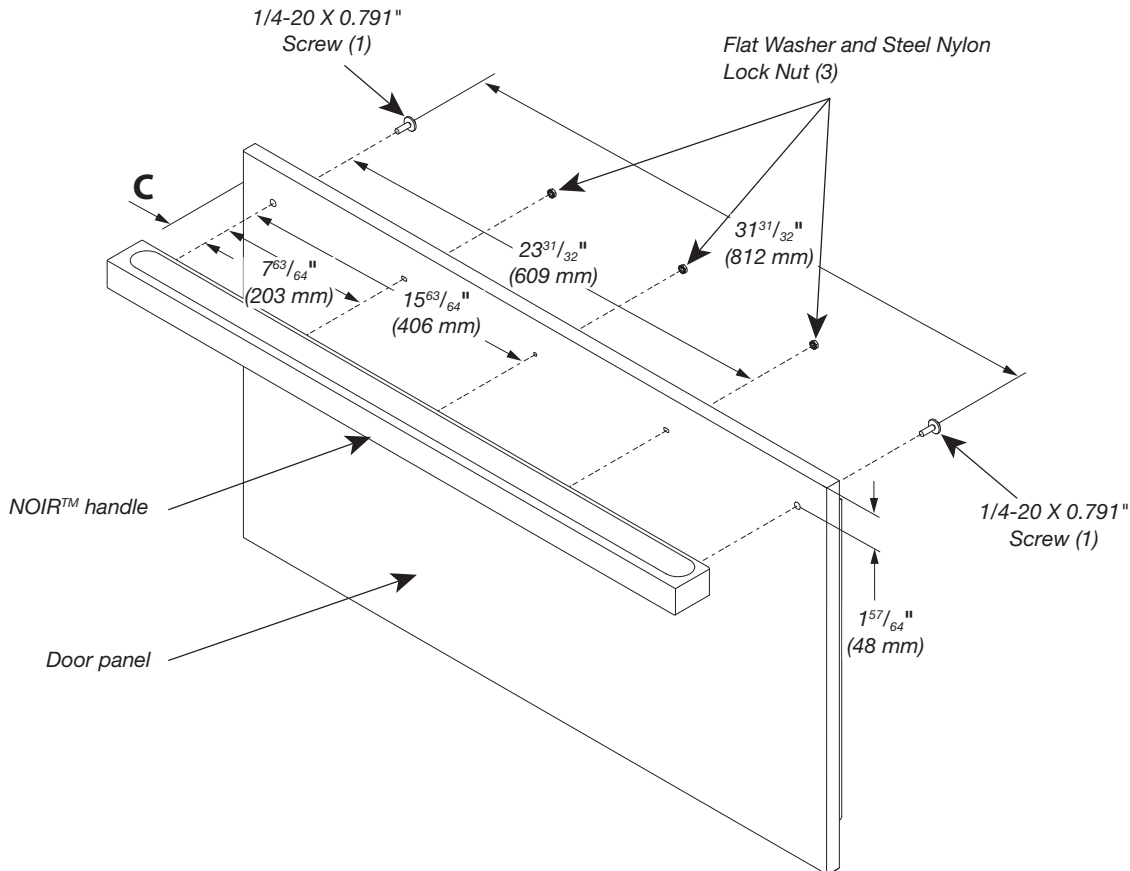
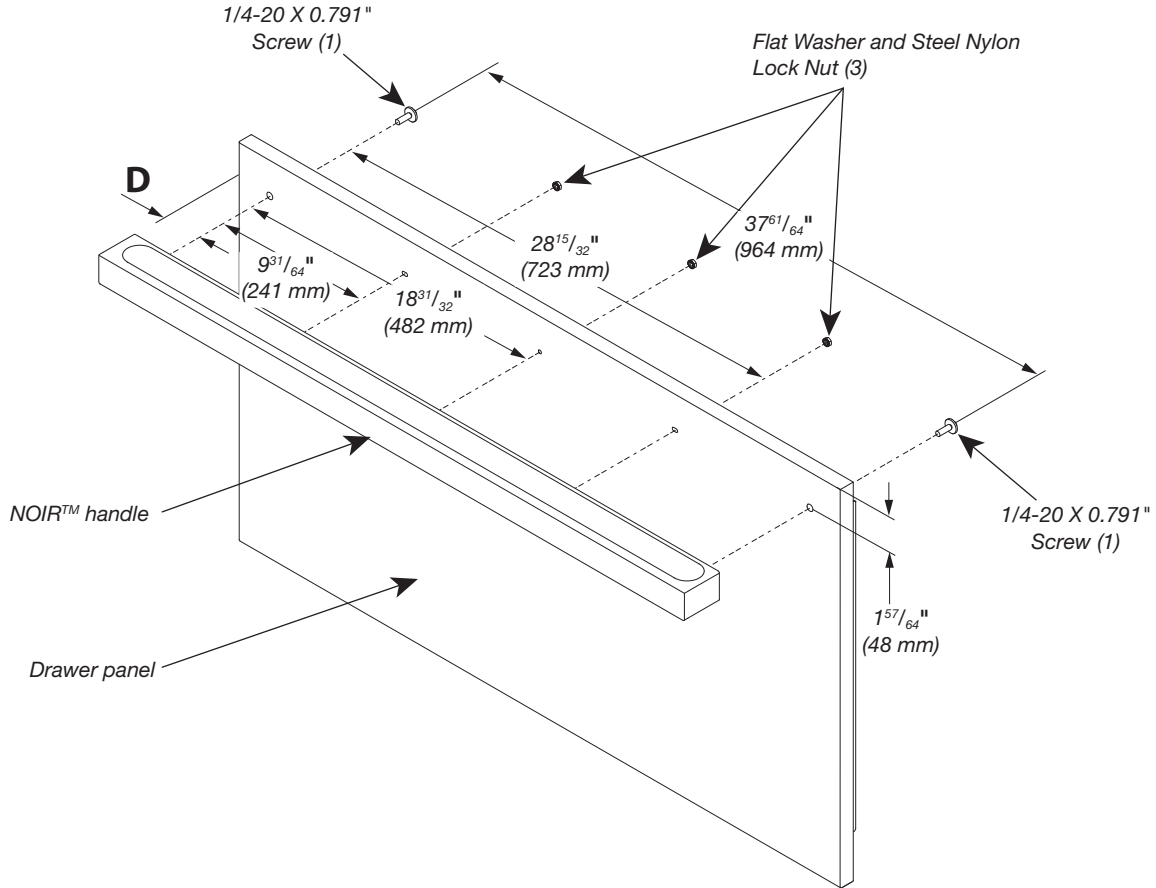

Figure 3 - 36" 2 Door bottom mount/36" french door bottom mount freezer drawer
Figure 4 - 42" French door bottom mount freezer drawer
- For model specific hole locations and the spacing requirements of NOIR™ handle mounting, refer Figure 3 and Table 2 (36" Bottom Mount/French Door Bottom Mount Models), Figure 4 and Table 3 (42" French Door Bottom Mount Models). The horizontal position of the handle is dependant on the panel reveal.
1. Measure 'C' (36" Bottom Mount) or 'D' (42" French Door) from the side of panel and mark the hole locations as shown in Figure 3 and Figure 4. Refer Table 2 and Figure 3 (for 36" Bottom Mount) or Table 3 and Figure 4 (for 36" Bottom Mount/French Door Bottom Mount Models) depending on panel configuration.